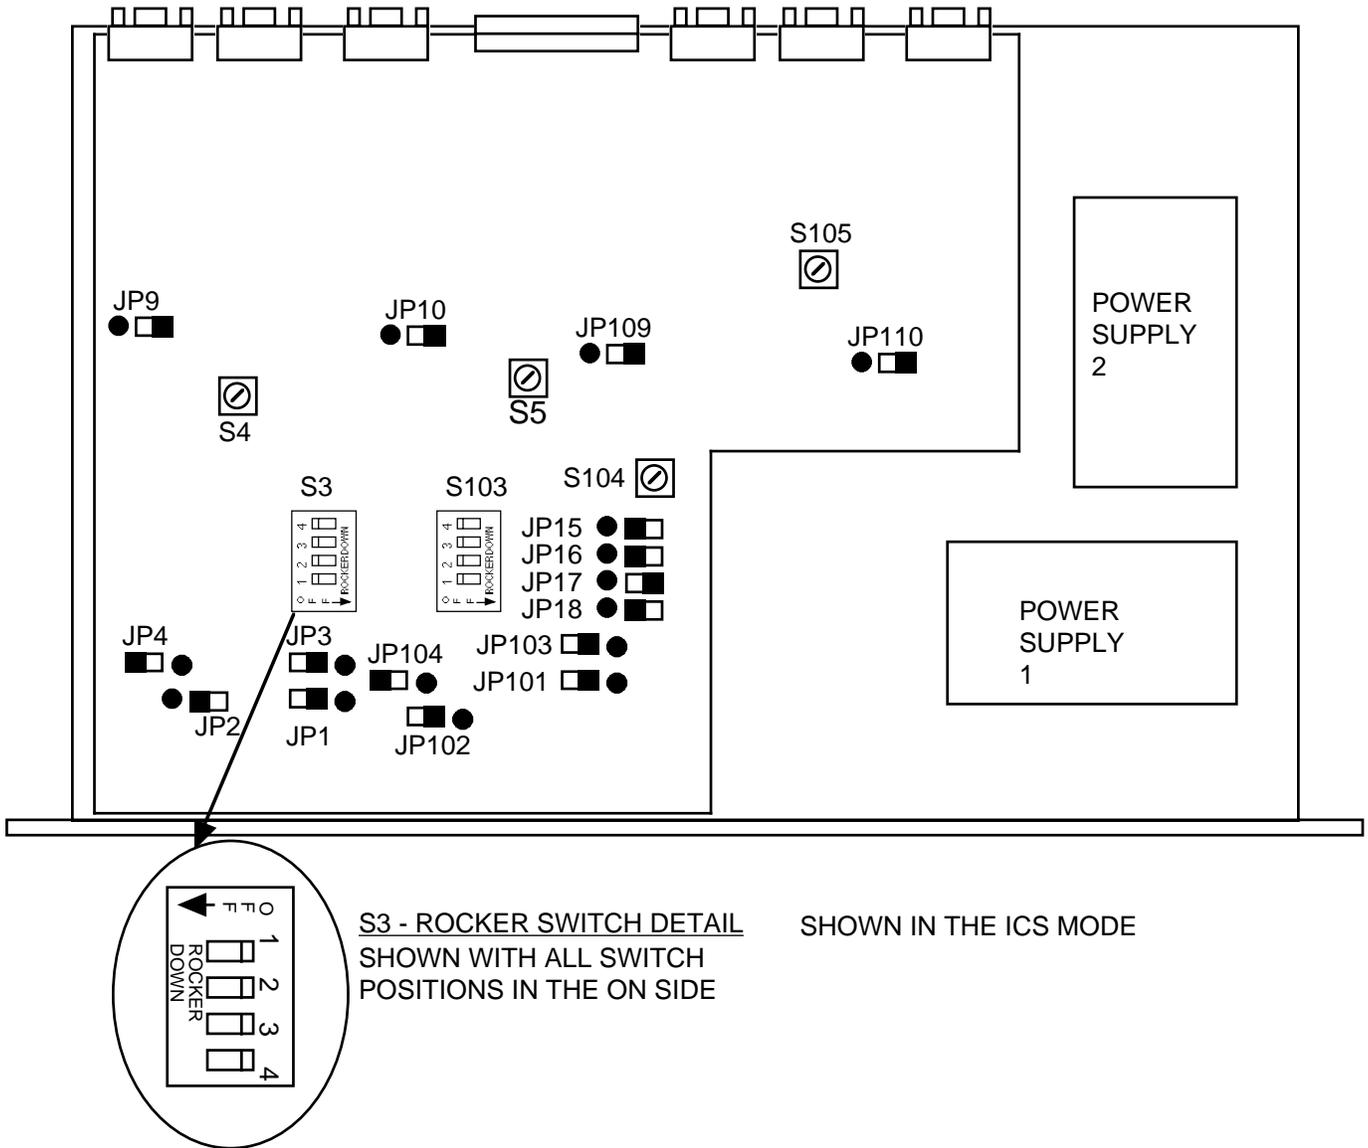

FIGURE 2.3 1582-725 PCB Settings Parts Locations
2.6 Switch Mode Setup - The following gives the switch mode settings of the on board controls that can be changed in the field: **SWITCH A** JP1, JP2, JP3, JP4; S3; **SWITCH B** - JP101, JP102, JP103, JP104, S103 (Section 2.3, Figure 2.3). All shown with external **alarm = ground**.
- a. Set the on board controls as desired (Section 2.4, 2.6, Figure 2.3).